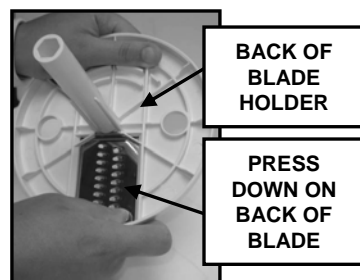

Fig. 8
- To remove the blade from the blade holder, push the blade from the back of the blade holder. (Fig. 8)